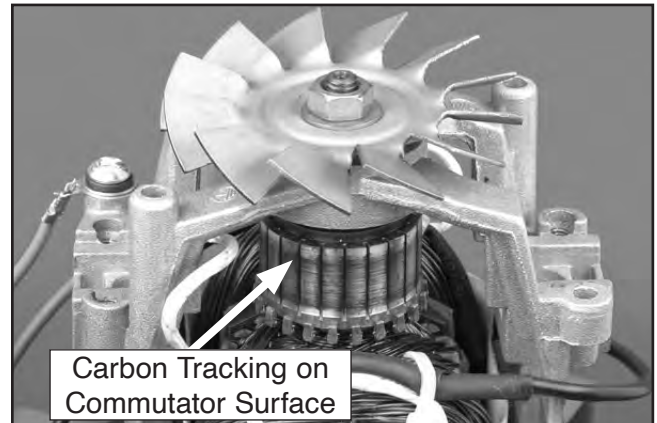

Figure 34. Commutator.
9. Inspect commutator surface (see **Figure 34**).
- If commutator only has minor wear and black-colored carbon tracking (see **Figure 34**), use fine crocus cloth to polish commutator where brushes ride. DO NOT use emery cloth or sandpaper to clean commutator or you will make it out-of-round, which will cause new brushes to arc, overheat, and wear out quickly.